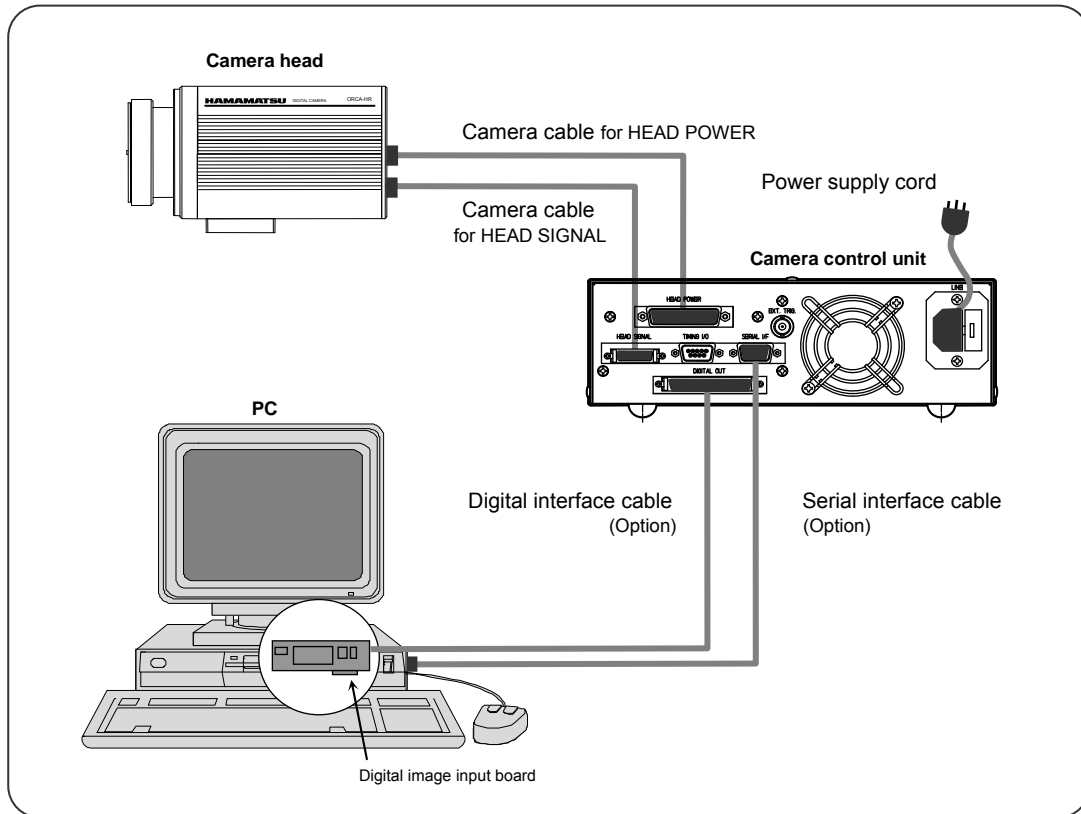

Fig. 7-1
- Connect the equipment as shown in Fig.7-1 before operating of the camera.